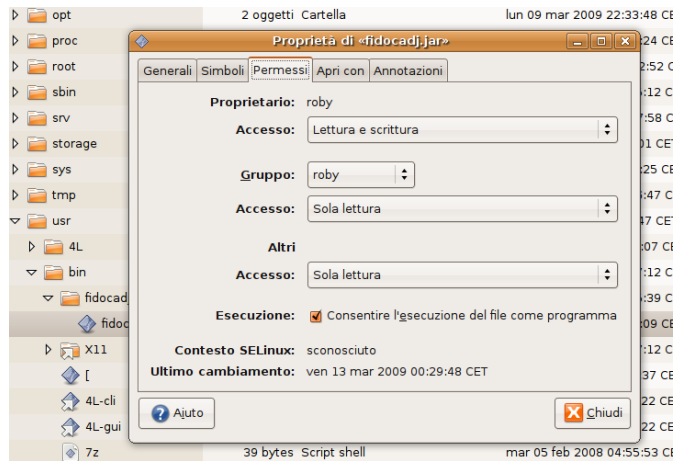

Figure 22: The setting of file rights, under Ubuntu 8.04.
- Let's do right click on the file, from the window we select the tab "rights", we add the check mark in front of the "Allow the execution of the file as a program", as shown in the figure 22